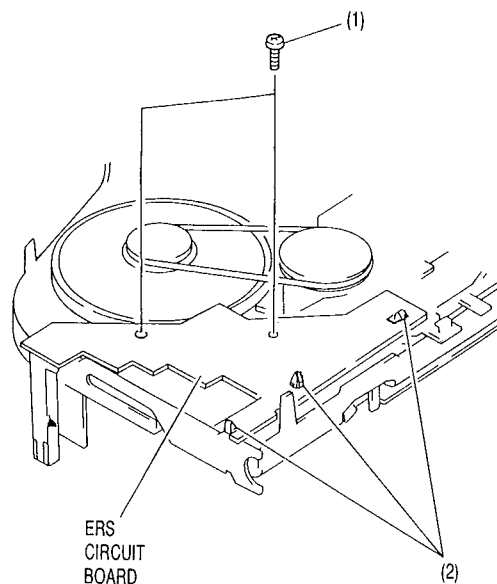

Fig. 3-10
- 1) Remove 2 screw (1). (See Fig. 3-10)
- 2) Release 3 tabs (2) and open the ERS circuit board.